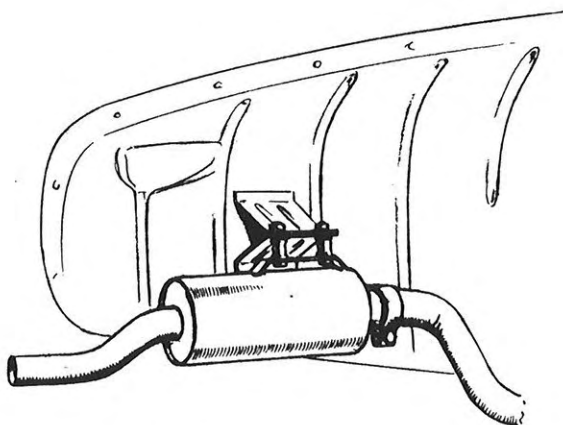

Fig. 3. Rear muffler
2. Remove the upper nuts with which the rear muffler is secured and withdraw the muffler from the exhaust pipe, see Fig. 3.
1. Remove the right-hand rear wheel and loosen the clamp at the exhaust pipe connection to the rear muffler inlet, see Fig. 3.
3. Loosen and remove the upper nuts which hold the rear muffler rubber buffers to the bracket on the wheel housing wall, see Fig. 3.